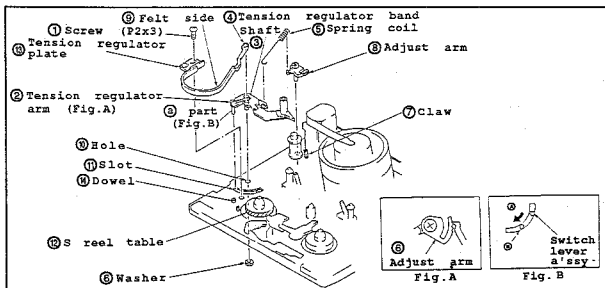

Fig.II-18
• Disassembling (Fig.II-18)
- (1) In the same procedures in "3-5", detach the TL plate.
- (2) Remove the screw ①.
- (3) Take off the tension regulator band from the shaft ③ of tension regulator arm ② by using a thin screwdriver or equivalent.
- (4) Remove the spring coil ⑤.
- (5) Remove the washer ⑥ from the rear side of mechanical chassis. Then, detach the tension regulator arm ②.
- (6) To detach the adjust arm ⑧, unhook the claw ⑦.
*Note: When detaching the tension regulator band ④, be careful not to twist or fold it. Also, when detaching it, do not touch the felt side ③ and drop the oil.
• Reassembling (Fig.II-18)
- (1) Mesh the adjust arm ⑧ with the position indicated in the Fig. A, then, hook the claw ⑦.
- (2) Apply the 1/2 drop of oil to the hole ⑩.
- (3) Attach the tension regulator arm ② to the slot ⑪ while inserting ③ part inside of switch lever assembly. (A indicated by an arrow.) (Fig.B)
- (4) While pressing the tension regulator arm ② from the front side of chassis, secure it with a washer ⑥ from the rear side.
- (5) Hook the spring coil ⑤ to the adjust arm ⑧ and the tension regulator arm ②, respectively. The direction of coil is as indicated in the Fig.
- (6) Attach the tension regulator band ④ to the shaft ③ of the tension regulator arm ② while fitting the felt side ③ onto the shadow area of S reel table ⑫.
- (7) Assemble the tension regulator plate ⑬ of the tension regulator band ④ while aligning it with the dowel ⑭ of chassis. Then, secure it with the screw ①.
- (8) In the same procedures in "3-5", attach the TL plate.
- (9) In the same procedures in "3-21", perform the tension regulator adjustment.
- (10) In the same procedures in "3-22", perform the back tension adjustment.